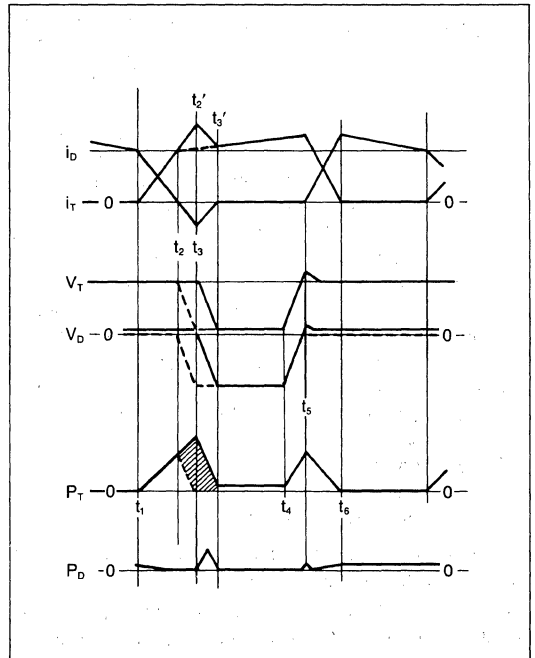

Figure 1c
In Figure 1c the solid lines are the waveforms using a practical diode in a buck regulator circuit. Comparing them with the dotted lines of the ideal diode previously considered we see three significant differences during transient switching and one during DC conduction:
From the P_T curve of Figure 1c it is obvious that transistor power dissipation increases above that of (3) due to the "real" diode, — see the hatched regions.